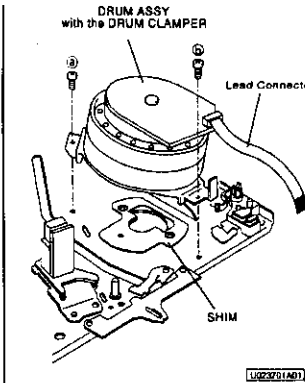

Fig. 2-37-1
- 1 Disconnect the lead connector of the DRUM ASSY shown in Fig. 2-37-1.
- 2 Unscrew the two DRUM CLAMPER fastening screws (a) and (b) shown in Fig. 2-37-1 to remove the DRUM ASSY with the DRUM CLAMPER attached.
- 4 If the product is provided with the SHIM shown in Fig. 2-37-1, remove and scrap it.
- 2 Install the DRUM ASSY with the DRUM CLAMPER attached shown in Fig. 2-37-1 on the MAIN PLATE ASSY.
- Note: In installing the DRUM CLAMPER shown in Fig. 2-37-1, first install the screw (b) and then install the screw (a)
- 3 Connect the lead connector of the DRUM ASSY shown in Fig. 2-37-1.
- 6 Clean the DRUM ASSY shown in Fig. 2-37-1 with alcohol.